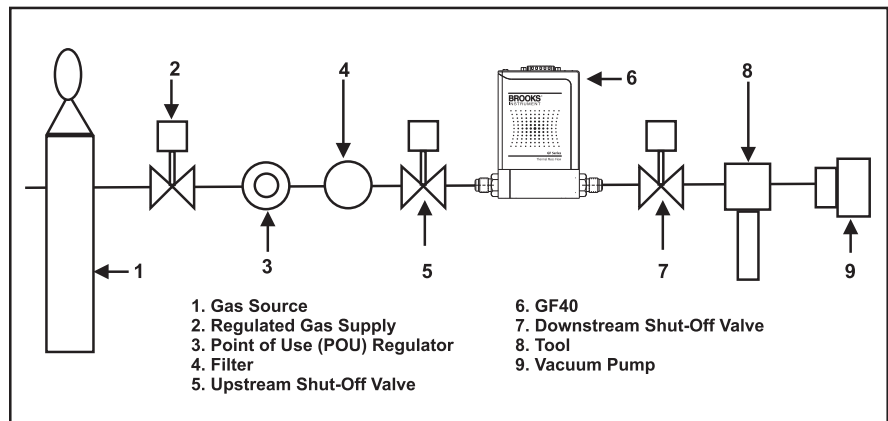

Figure 2-1 Typical Gas Supply Arrangement
Typical gas supply arrangements are shown in Figure 2-1. GF40s are often arranged inside a gas panel. Configure standard configurations ("SAs") or "blanks" for a variety of pure gases and mixtures. As a result, MultiFlo technology enables the user to reduce unique inventory requirements.
For additional safety, it is recommended to close the two valves between the charged gas line and the GF40 Series to be installed. See Figure 2-1 for more details.
- Refer to Figure 2-1. Open the upstream shut-off valve (5) and close the downstream shut-off valve (7). This eliminates a pressure drop across the GF40 Series and subsequent leakage from the PID control valve inside the GF40 Series.
- Refer to Figure 2-1. Close the upstream shut-off valve (5) to prevent any pressure effects from the regulator (3).